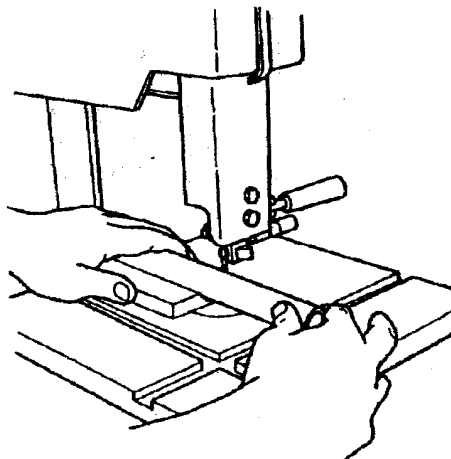

Fig.23
- Properly brace and support the workpiece before, during and after the cut is made. For example, place a metal pipe in a V-block as in Fig.23.